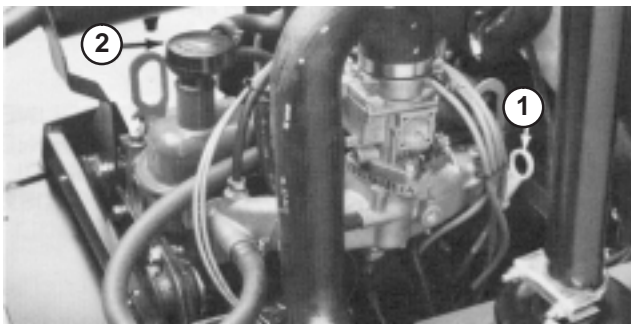

Figure 13
2. Remove dipstick and wipe it with a clean rag (Fig. 13). Push dipstick down into the tube and ensure it is fully seated. Pull dipstick out of the tube and check level of oil.
3. If oil level is low, remove filler cap (Fig. 13) and add enough oil to raise level to top notch on dipstick. DO NOT OVERFILL.